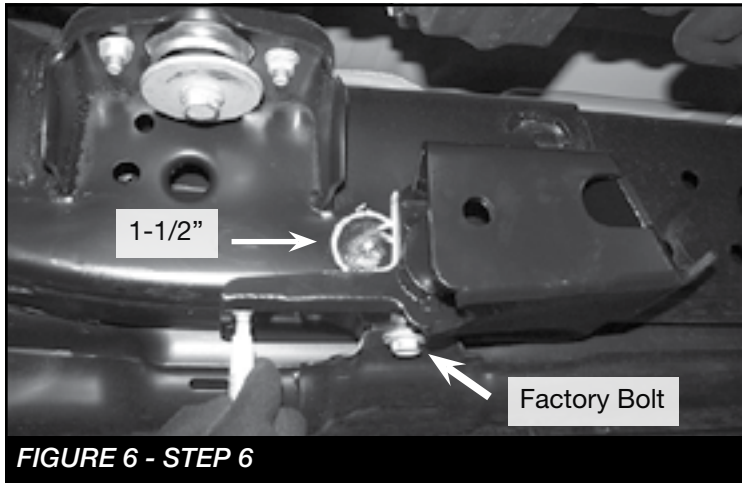

FIGURE 6 - STEP 6
6. Locate FT50629 (Pass rear frame pocket). Install the new frame pocket to the frame using the factory bolt. **NOTE: Install the pocket so its between the frame and the gas tank skid plate.** Next, place a 1-1/2" hole saw into the corner of the pocket and outline it using a paint pen. Then mark the remaining 4 holes, 1 on the bottom and the 3 on the side. **SEE FIGURE 6**